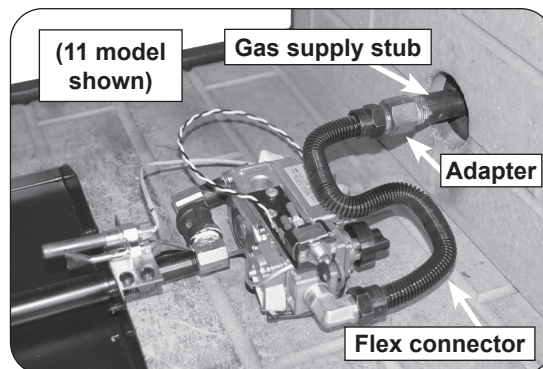

Fig. 16-1 Connect gas supply
2. Locate the gas-supply stub inside the fireplace and remove the cap, if attached (reference Fig. 16-1).
5. **Be sure gas to the fireplace is off.** Remove the adapter connected to the flex connector. Attach the adapter to the gas-supply stub using a pipe compound resistant to all gasses. Tighten securely. Then attach the open end of the flex connector to the adapter. Tighten securely (see Fig. 16-1). Ensure the pan rests level on the fireplace floor after connection. Adjust the pan if necessary.